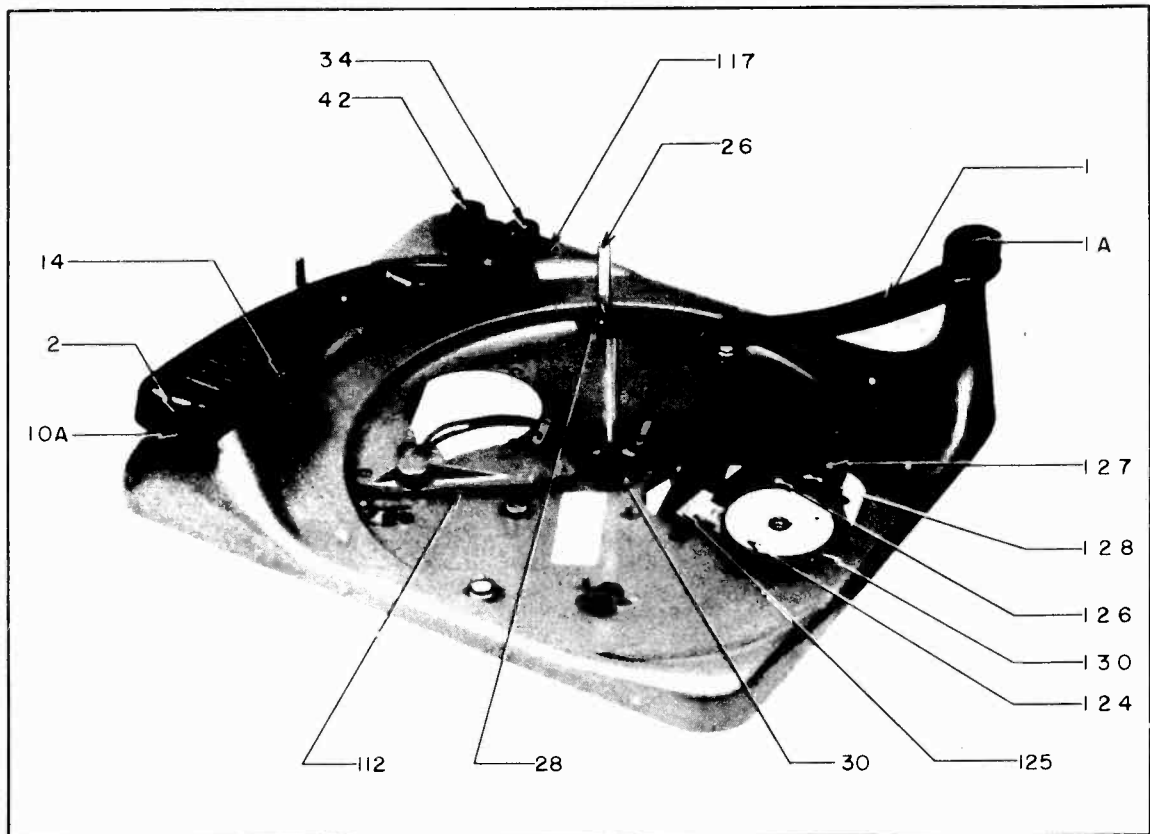

Fig. 1. Top View
**TO PLAY A SINGLE RECORD**—(See Fig. 1.) To play single records or home recordings, lift up the record support (1) and move it counterclockwise out of the way. Place the record on the spindle and lower to the spindle shelf. Tilt the record down towards the rear of the tone arm and lower the record to the turntable. Place the proper pickup head into the pickup arm (brown for standard groove records, or red for microgroove records). Turn the Control Knob (34) to proper speed position. Turn the Control Knob (42) to "ON" position, and trip the Index Trigger (14) on the rear inside of the Pickup Arm. Place Pickup Arm on the record with the stylus in the leading groove of the record. Then replace record support (1) over spindle.
7. Turntable ball bearing (30, Fig. 1).
3. Turntable and spindle bearing (30, Fig. 1).